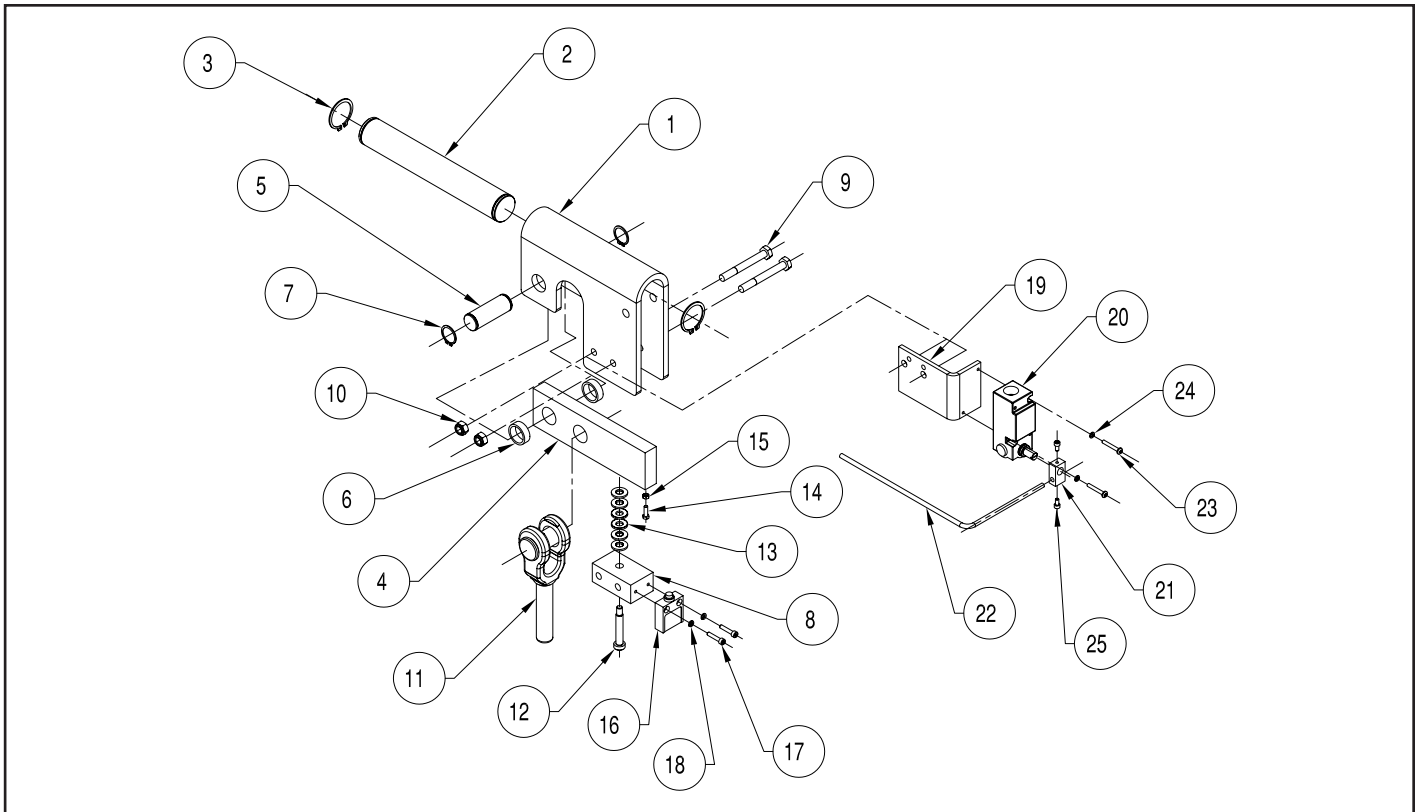

Figure 9-6a. Wire Rope Dead End Assembly with Limit Switch ("B" & "C" Frame)
**"B" Frame: Wire Rope Dead End Assembly Components for Figure 9-6a.**
**"C" Frame: Wire Rope Dead End Assembly Components for Figure 9-6a.**